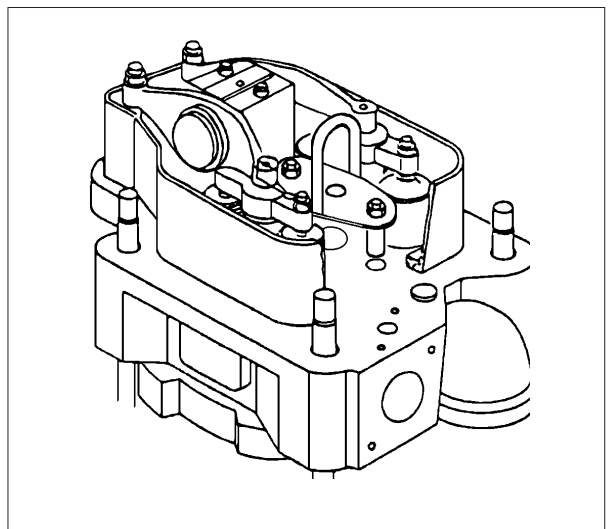

Fig 3
- 13) Mount the lifting tool by means of the two nuts. See Fig 3.